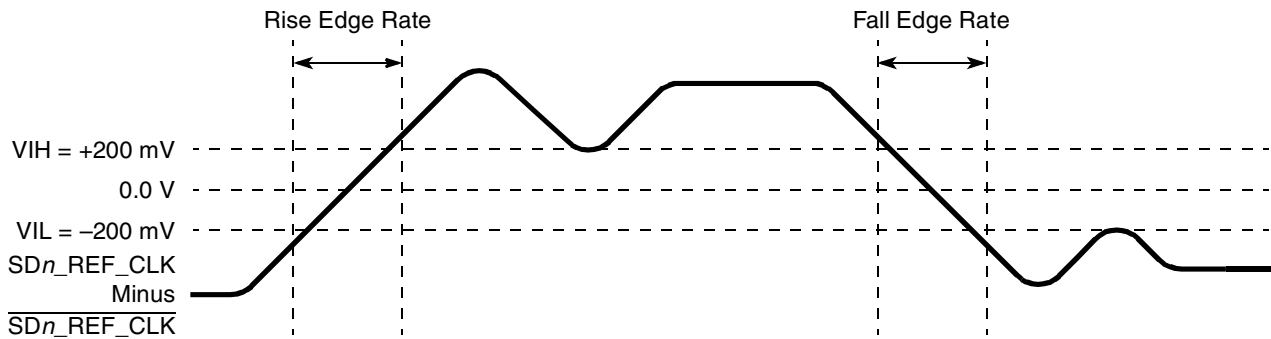

Figure 57. Differential Measurement Points for Rise and Fall Time
The differential waveform is constructed by subtracting the inverting signal ($\overline{SDn_TX}$, for example) from the non-inverting signal (SDn_TX , for example) within a differential pair. There is only one signal trace curve in a differential waveform. The voltage represented in the differential waveform is not referenced to ground. Refer to Figure 57 as an example for differential waveform.
3. Measured from -200 mV to +200 mV on the differential waveform (derived from $\overline{SDn_REF_CLK}$ minus $\overline{SDn_REF_CLK}$). The signal must be monotonic through the measurement region for rise and fall time. The 400 mV measurement window is centered on the differential zero crossing. See Figure 57.